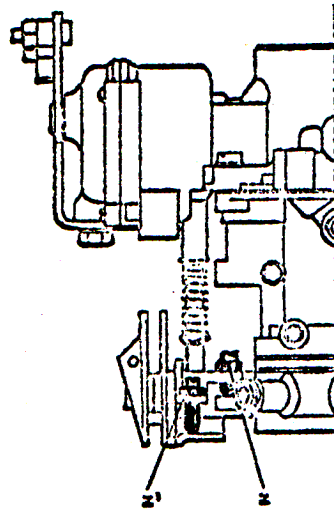

Fig. 1
- The throttle stop screw (Z - Fig. 1) is no longer used to increase the speed of the motor. This function is accomplished by the screw (Va - Fig. 2) which controls the opening and closing of an air passage.
- The two adjustment screws (Z and Z₁ - Fig. 1) are covered with rubber caps. These should never be touched because they risk increasing the percentage of carbon monoxide (CO) in the exhaust gas. Additionally, the throttle stop screw (Z) is fitted with a lock-nut and the threads coated with glue so as to prevent disturbance of its original setting, determined on assembly at the factory.